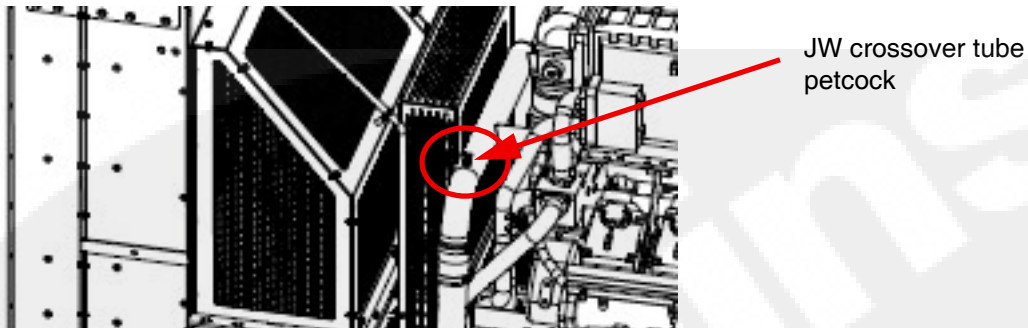

Figure 5-5 JW crossover tube petcock (GenSet left side)
5. As shown in Figure 5-5, twist open the JW petcock on top of the JW crossover tube.